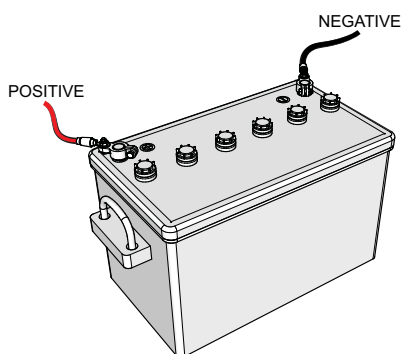

Figure 16. Battery Connections
**ALWAYS** be sure the battery cables (Figure 16) are properly connected to the battery terminals as shown below. The **red cable** is connected to the positive terminal of the battery, and the **black cable** is connected to the negative terminal of the battery.